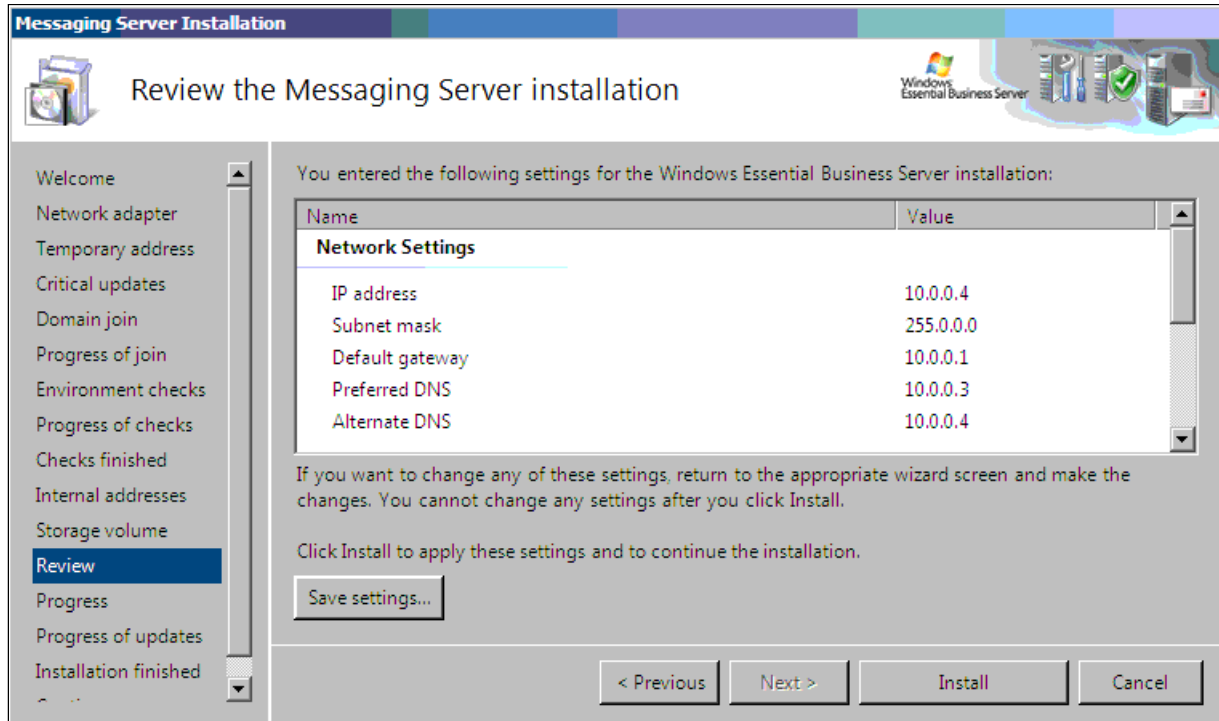

Figure 4-44 Review the Messaging Server installation
16. Review your settings on the “Review the Messaging Server installation” panel (Figure 4-44). To change the settings that you made since you joined the Active Directory domain, click **Previous** to return to previous pages.